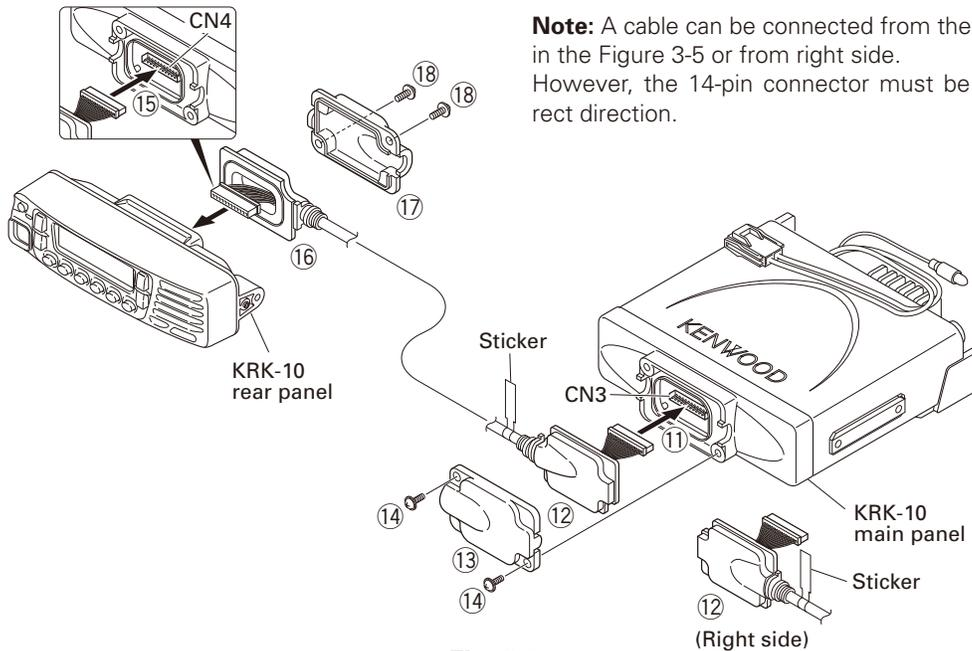

Fig. 3-5
8. Insert one 14-pin connector of the cable (E30-7514-15) into the connector (CN3) of the interface unit (A/2) of the main panel. (11)
9. Secure the cable bush on the main panel and fit the waterproof packing (orange) (12) securely over top.
10. Install the molded cover (13) over the connector on the main panel and secure it with two screws (14).
11. Insert the other 14-pin connector of the cable into the connector (CN4) of the interface unit (B/2) of the rear panel. (15)
12. Secure the cable bush on the rear panel and fit the waterproof packing (orange) (16) securely over top.
13. Install the molded cover (17) over the connector on the rear panel and secure it with two screws (18).
**Note:** A cable can be connected from the left side as shown in the Figure 3-5 or from right side.